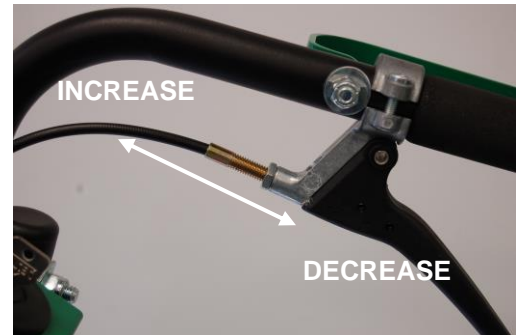

Fig. 12
2. Adjustments to cable tension are made at the barrel entering the Drive Control Levers. (See *Fig. 12*)